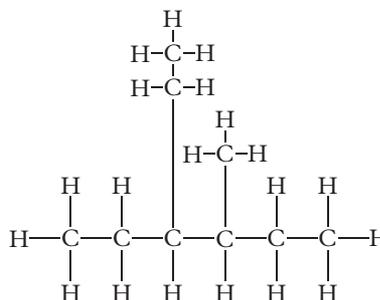

FIGURE 3 A nine-carbon hydrocarbon
- When there are multiple branches and there are no points of difference, list the substituents in alphabetical order. For example, you can name the hydrocarbon in Figure 3 as follows.